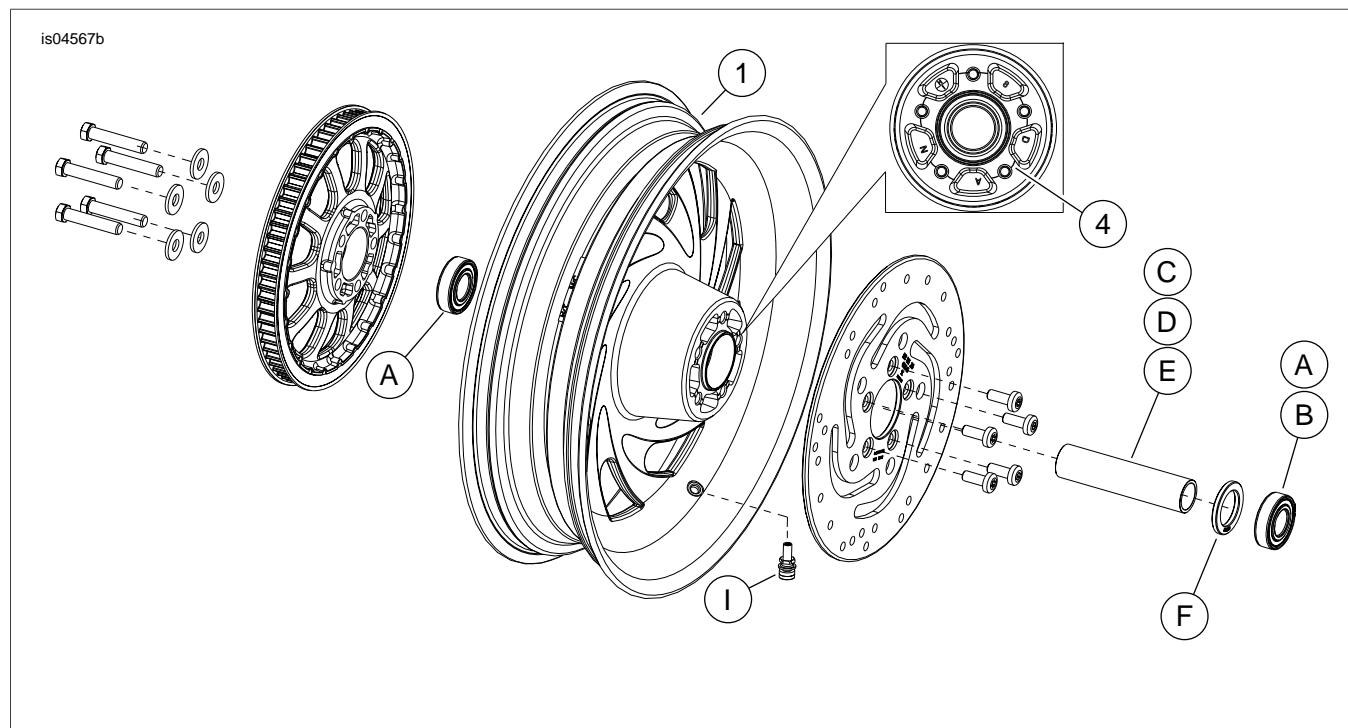

Figure 1. Service Parts: Rear Typhoon Wheels
See Figure 1 and Service Parts Tables.
2. See Figure 1. Install valve stem assembly (I) on wheel. Refer to TIRES in service manual.